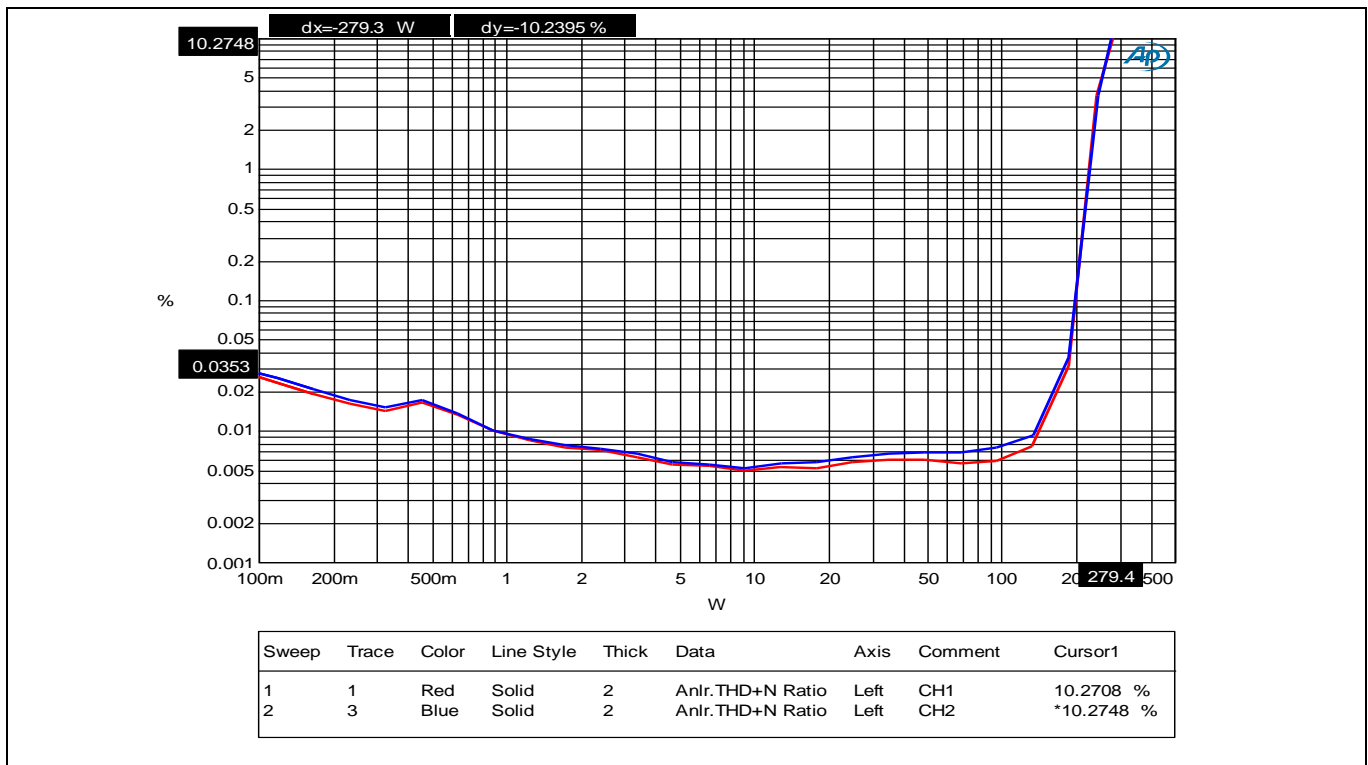

Figure 5 Power vs. THD+N 4  $\Omega$  load
9. Run the AP test as shown in Figures 5 to 13, below.